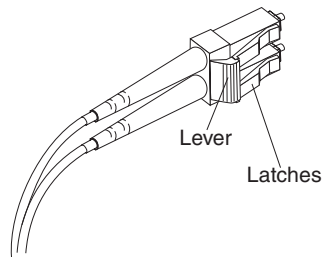

Figure 27. LC-LC Fibre Channel cable lever and latches
1. On the end of the cable that connects into the LC connector end of the LC-SC cable adapter, press down and hold the lever to release the latches. Figure 27 shows the location of the lever and latches.